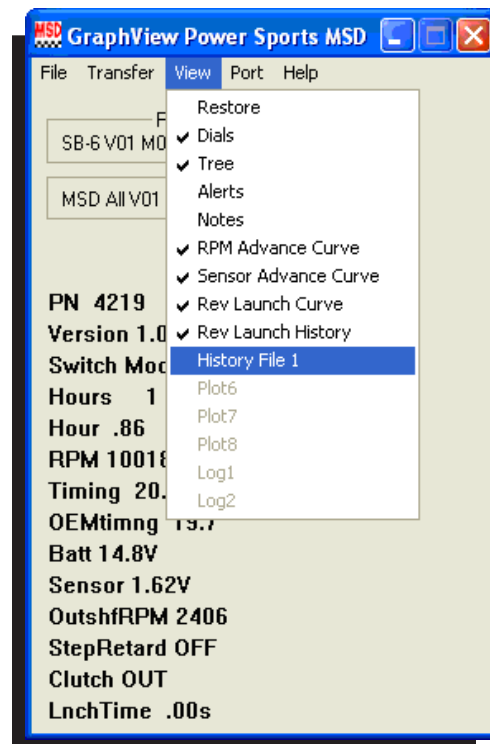

Figure 9 Opening a Run File.
2. From the View pull-down menu, select History File 1 to open the History File Window (Figure 9).